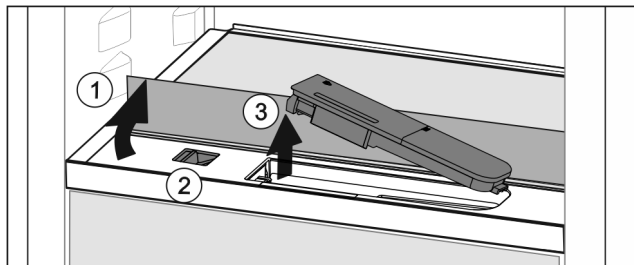

Fig. 97
- ▶ Lift the glass panel and fold to the back as far as it will go Fig. 97 (1).
- ▶ Slide the slider Fig. 97 (2) to the left.
- ▶ Remove the water tank Fig. 97 (3).